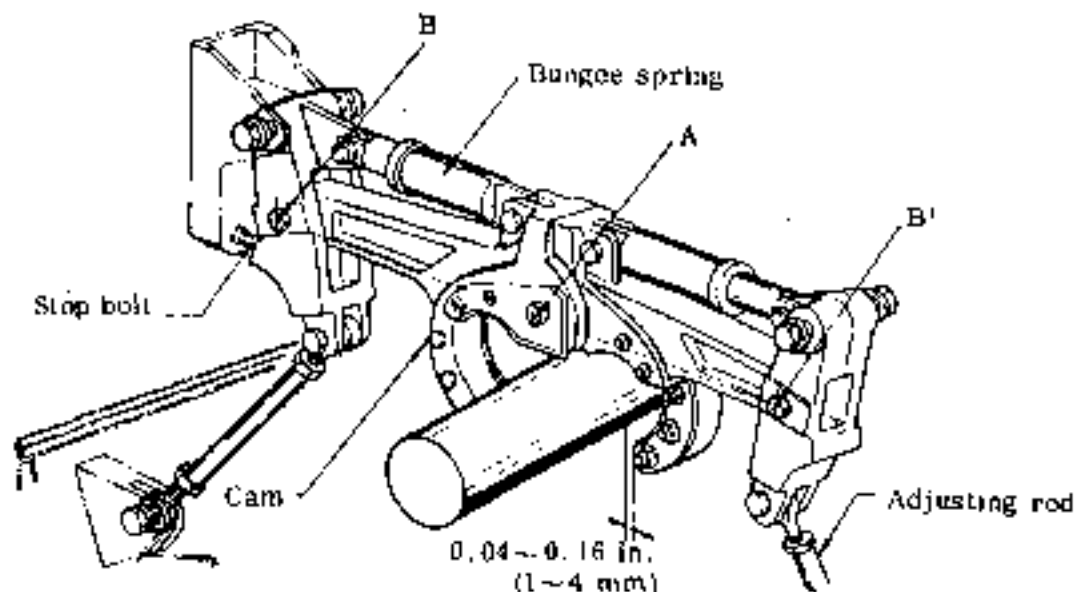

Fig. 4-16 Adjustment of nose gear door mechanism
2.10 NOSE LANDING GEAR DOOR MECHANISM (See Figs. 4-16 and 4-17)
- (1) With the nose gear down and locked, adjust the stop bolt so that the arm touches the stop bolt when point A comes to point A' as illustrated in Fig. 4-16 and 4-17 and make sure that the point A may overcenter the line B-B'. After tightening the nut on the stop bolt, apply alignment mark.